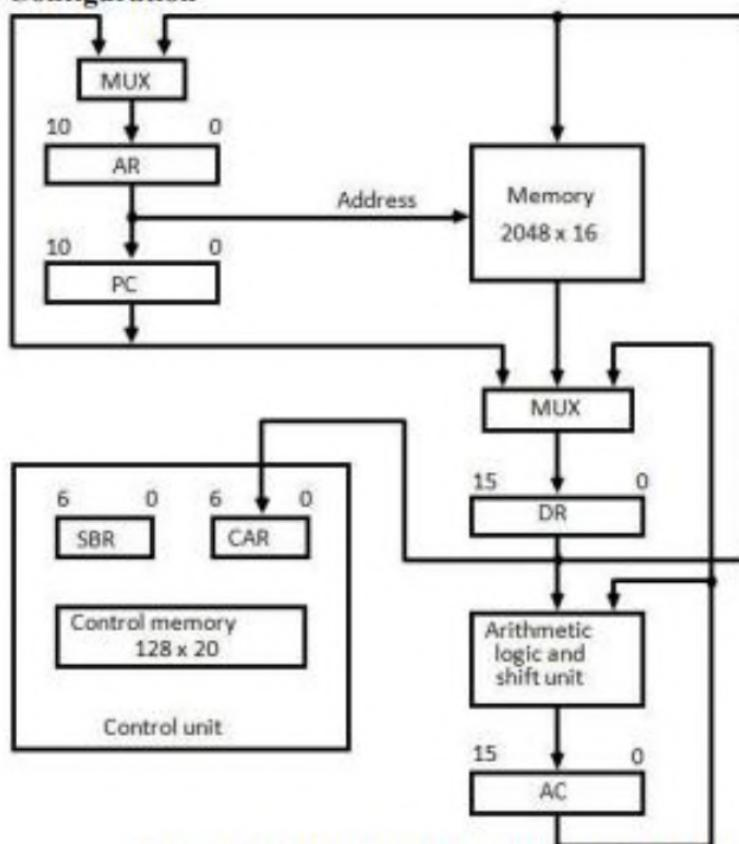

Figure 4.4: Computer hardware configuration
- **The block diagram of the computer is shown in Figure 4.4. It consists of**